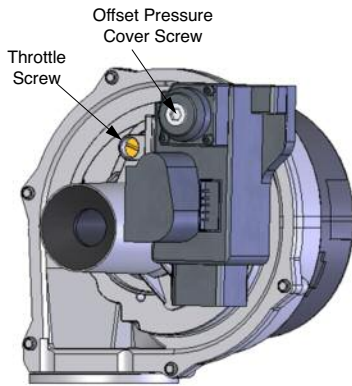

Fig. 7: Combustion Adjustment - Prestige Burner
2. If the combustion levels during high fire is outside the recommended combustion settings adjust the THROTTLE SCREW (see Fig. 7) as follows:
4. If the CO₂ combustion level at low fire is not within +/- 0.2% of the combustion level measured at high fire, remove the offset cover screw and adjust the plastic OFFSET SCREW using a T40 Torx screwdriver (see Fig. 7) as follows:
6. If the combustion levels during high fire (100%) are outside the recommended combustion settings adjust the THROTTLE SCREW (see Fig. 7) using a flat-blade screwdriver as follows:
8. If the CO₂ combustion level at low fire (1%) is not within +/-0.2% of the combustion level measured at high fire, remove the offset cover screw and adjust the plastic OFFSET SCREW using a T40 Torx screwdriver (see Fig. 7) as follows: